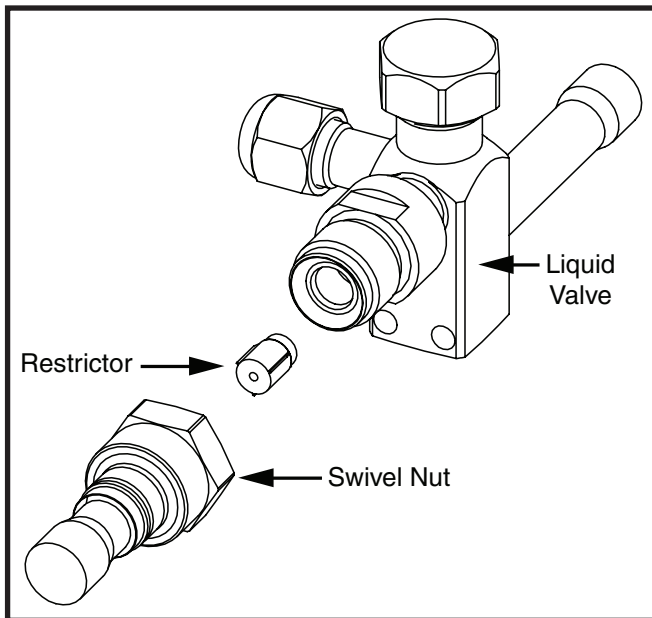

Figure 2. Liquid Valve, Restrictor, & Swivel Nut Adapter
If the outdoor unit has the liquid valve shown in Figure 2, then the restrictor is located inside the swivel nut connection of the liquid valve and not inside the outdoor unit's distributor. Perform steps 1 - 5 if the outdoor restrictor needs to be changed.
4. Insert the new orifice into the valve body, with the rounded end facing into the valve. See Figure 2 \(page 5\).